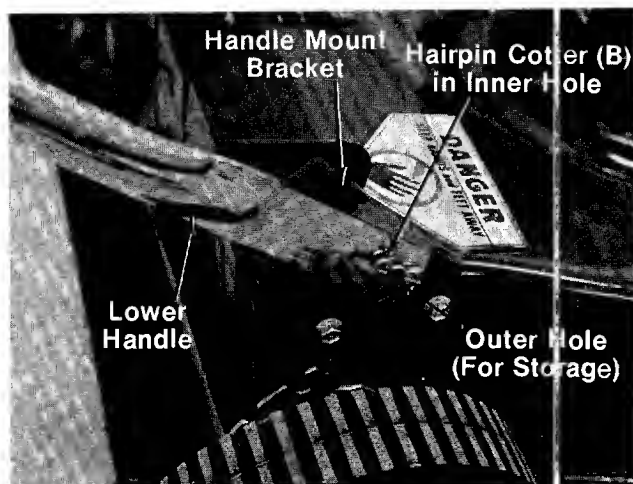

FIGURE 2.
- A (1) Rope Guide Bolt
- B (2) Hairpin Cotter
- C (2) Lock Washers 5/16" I.D.
- D (2) Hex Nuts 5/16-18 Thread
- E (1) Curved Head Carriage Bolt
- F (2) Cable Ties
3. Attach the lower handle by placing the bottom holes in the lower handle over the weld pins on the handle mount brackets. Make certain the instruction label on the lower handle can be read from the operating position. Secure with hairpin cotters (B) in inner holes on weld pins. See figure 2.